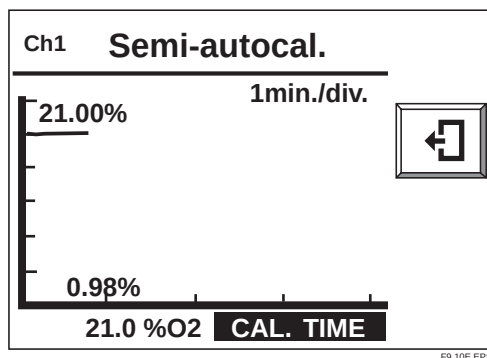

Fig. 9.10 Semi-Auto Calibration Trend Graph
- 4) When you select [Start calibration] the [Semi-autocal] trend graph of Fig 9.10 is displayed, and Span calibration begins.